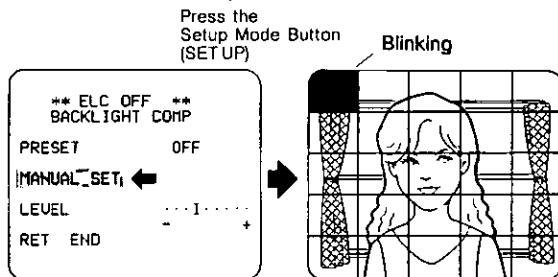

Fig. 52
- Move the cursor to the "MANUAL SET" mode position and press the Setup Mode Button (SET UP). The 25 Mask Areas appears on the monitor screen as shown in Fig. 52. The left top area starts blinking as a cursor.